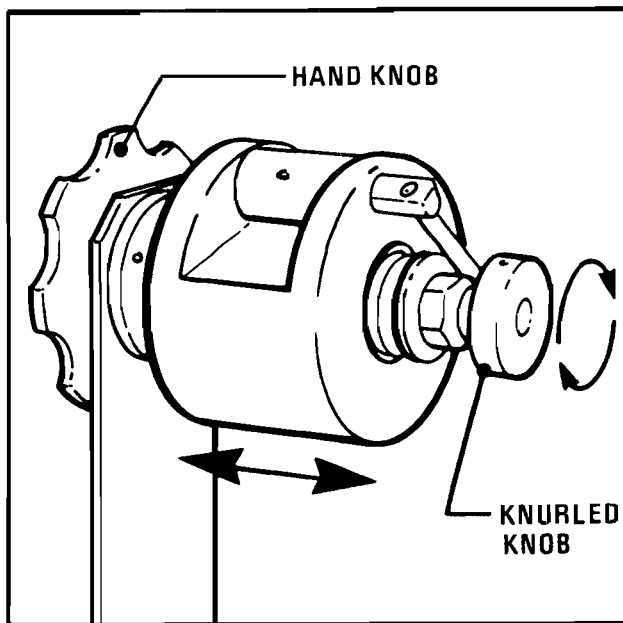

FIGURE 20 - DRUM TAPE ALIGNMENT
2) TAPE WEB ALIGNMENT - Refer to Figure 20